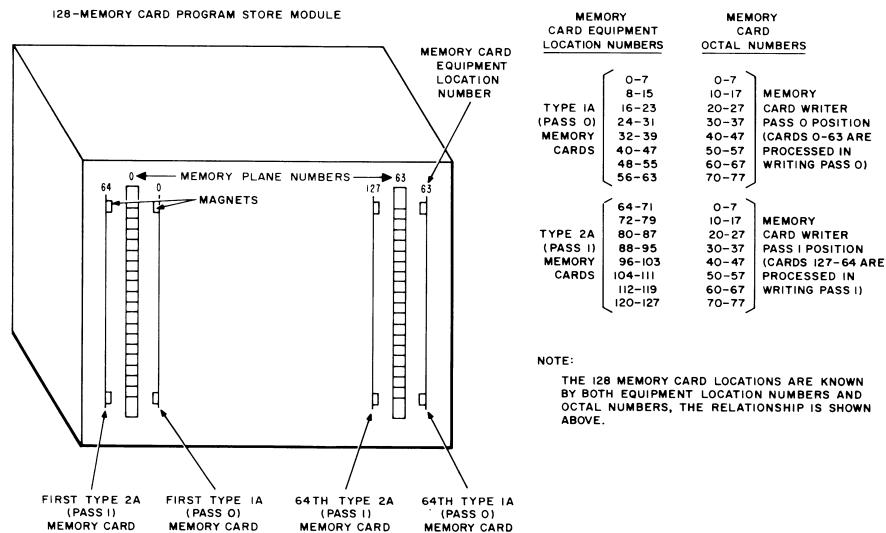

Fig. 7—Memory Card Locations in PS Module
**2.11** Within a module the 128 memory cards are known by both equipment location numbers and octal numbers (Fig. 7). The first memory card written in pass 0 is a type 1A card, equipment location 0; and the first memory card written in pass 1 is a type 2A card, equipment location 64.